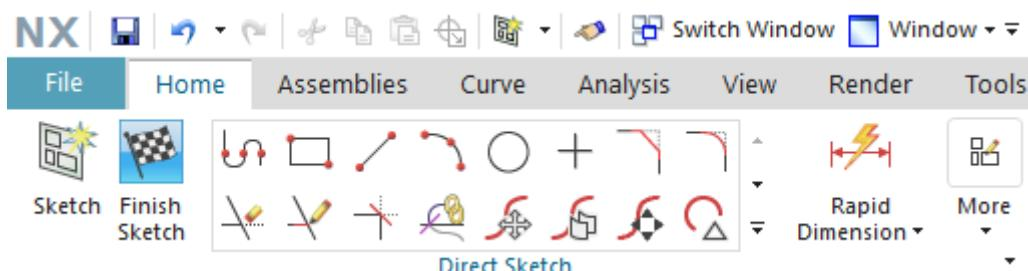

Figure 11: Sketching functions in NX
- You have access to various sketching functions within a sketch. A portion of these are shown in Figure 11. You can select a variety of forms for creating or correcting sketches in the selection menu in the center of the window. On the left are functions for creating another sketch within this sketch, as described in the preceding steps, or finishing the sketch.
To finalize the sketch, click the "Finish Sketch" button in the sketching functions of NX (see Figure 11). The sketch editor then closes, and you are taken back to the three-dimensional view.
- Finalize the sketch by clicking the "Finish Sketch" button  in the Sketching functions of NX (see Figure 11). This closes the sketch editor and returns you to the three-dimensional view.